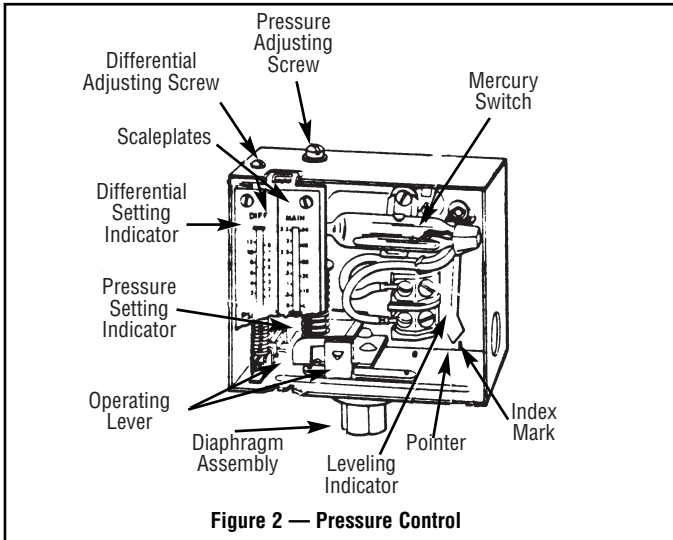

Figure 2 — Pressure Control
2. On all controls, the pressure adjusting screw on the top of the case sets the desired pressure. Turning the screw counterclockwise reduces the pressure setting (**CUT OUT**) (See Figure 2). High limit control should be set at 10 psig above the operating pressure of the boiler.